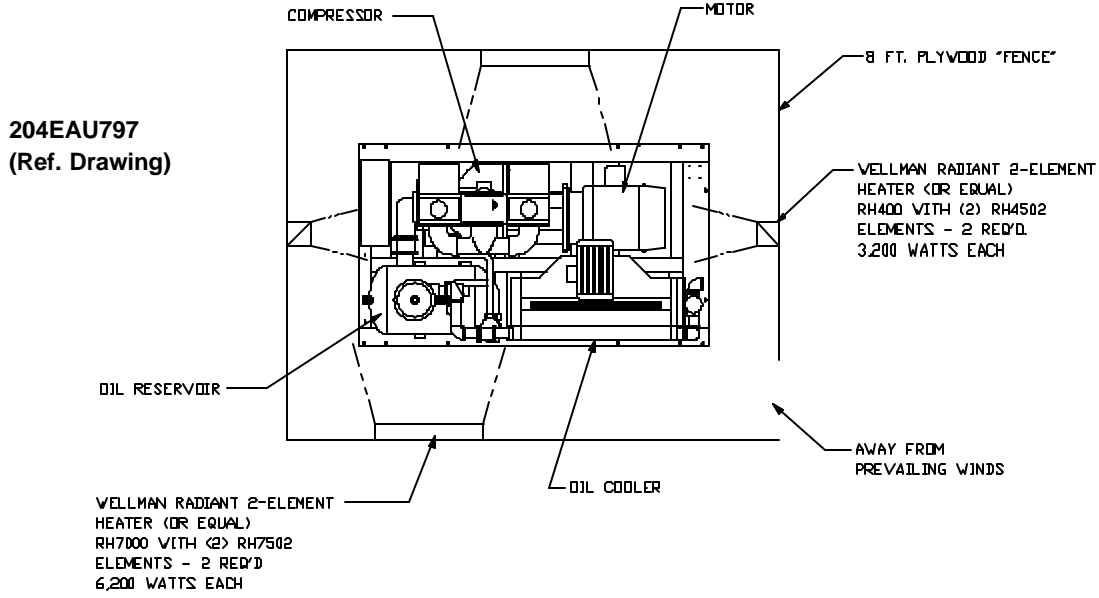

Figure 2-3 – COLD WEATHER INSTALLATION
INSTALLATION FOR COLD WEATHER OPERATION (Figure 2-3) - It is recommended that the unit be installed inside a shelter that will be heated to temperatures above freezing (32° F, 0° C). This will eliminate many of the problems associated with operating units in cold climates where freezing rain, drifting snow, freezing condensate and bitter cold temperatures are encountered.
3. Some means of providing heat during shutdown should be provided. There are various methods to accomplish this, but since openings are not provided for sump heaters, the use of radiant heaters is recommended. The heaters should be sized to provide at least a +10° F (-12° C) environment for coolers, motor and sump. Figure 2-3, page 11, shows how these might be located in a typical installation and sizes required.